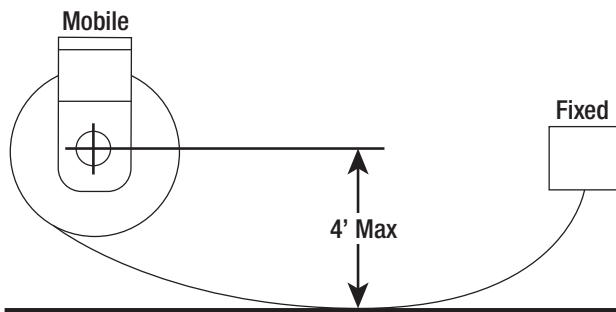

Figure 3-3
3.0.3.1 The reel is Mounted on the moving object and winds up or pays out the cable as the machine approaches or moves away from the fixed end. Retrieve applications can be elevated up to 4 feet from the cable support surface. See Figure 3-3.